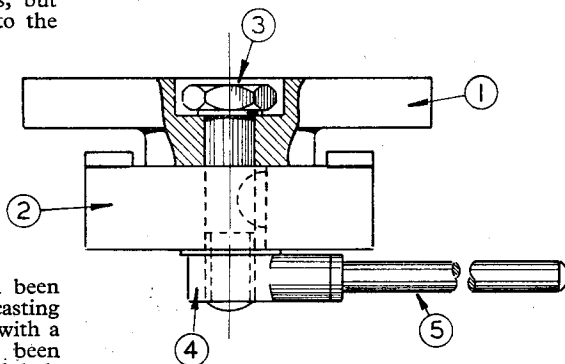

Fig. 3
This part is also shown as (1) in Figs. 3 and 4.
Before going further, let us turn to Figs. 3 and 4 to see the construction of the whole device and its method of working.
Although the pivot bolt has but little tendency to turn as the clamp nut is tightened, nevertheless, a Woodruff key as shown in Figs. 3 and 4 (3) will provide the ideal means of preventing rotation, and will, at the same time, best resist wear.